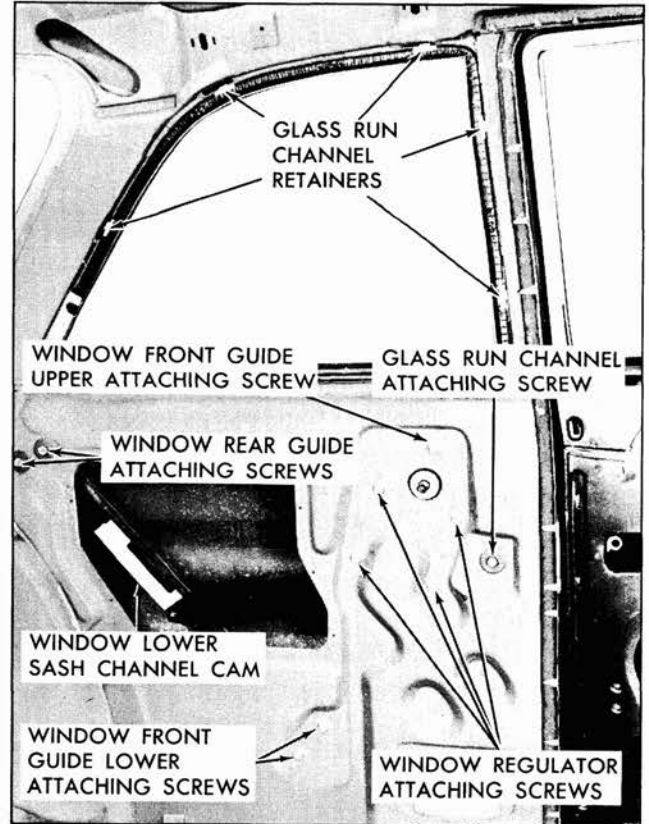

Fig. 4-4 Rear Quarter Hardware - "11" Style
2. Remove rear quarter window glass run channel attaching screw (Fig. 4-4). Carefully remove glass run channel from retainers in rear quarter pillar and side roof rail.
2. Remove access hole cover from inner panel. Loosen window front guide upper attaching screw. Remove window rear guide attaching screws and remove guide (Fig. 4-4).
To adjust rear quarter window fore or aft, loosen front guide attaching screw (Fig. 4-4). Adjust window and guide fore or aft as required and tighten attaching screw.
3. Remove front guide upper and lower attaching screws (Fig. 4-4). Disengage guide from roller on window lower sash channel; move front guide assembly rearward between panels sufficiently to allow upper end of guide to be started out through large access hole; then remove guide assembly.
3. Remove rear guide attaching screws (Fig. 4-4).
2. Remove access hole cover from inner panel. Remove front guide upper attaching screw and glass run channel attaching screw. (Fig. 4-4).
4. Remove window regulator attaching screws (Fig. 4-4), disengage regulator arm roller from window lower sash channel cam and remove regulator assembly through large access hole.